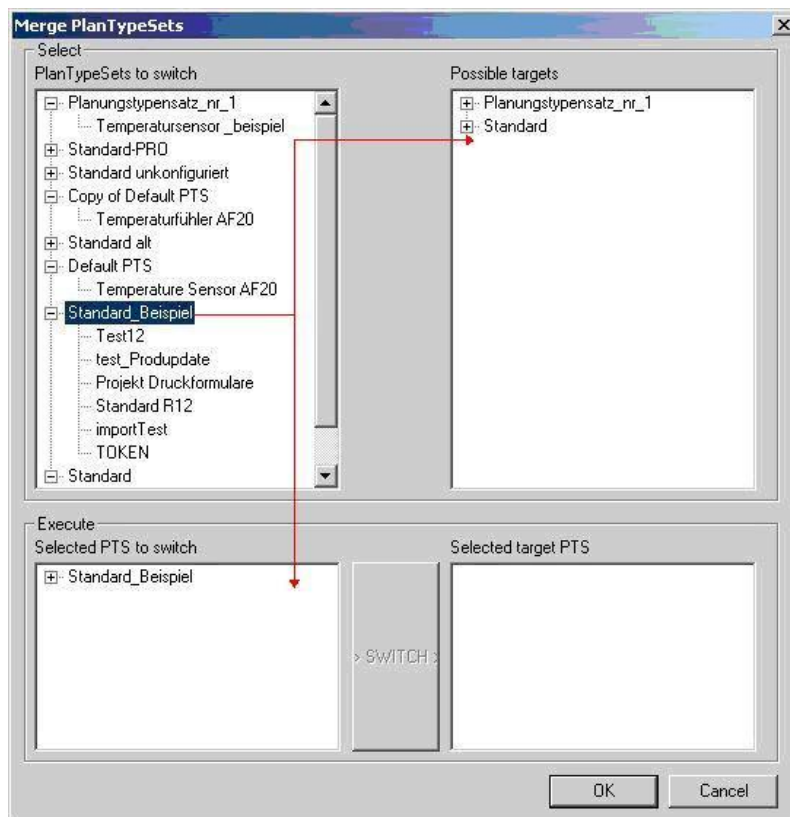

Figure 2: Second Sub-Window
- If you have select a plantype set which can be replaced by **one** other plantype set, all plantype sets which could be possible targets for the plantype set are displayed in the second window. The selected plantype set is shown in the third sub-window (Figure 2).